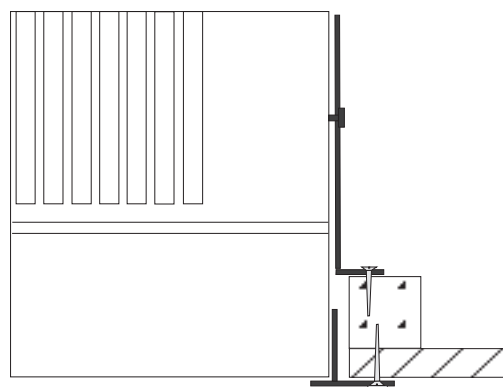

Fig 2
2) Locate the brackets to sit on top of the support frame (see Fig 2). Position the grille frame in the opening and loosely fix with the 2 round headed screws provided. Place unit in ceiling from above and position within grille frame. Secure brackets with woodscrews provided, tighten grille frame fixing screws.